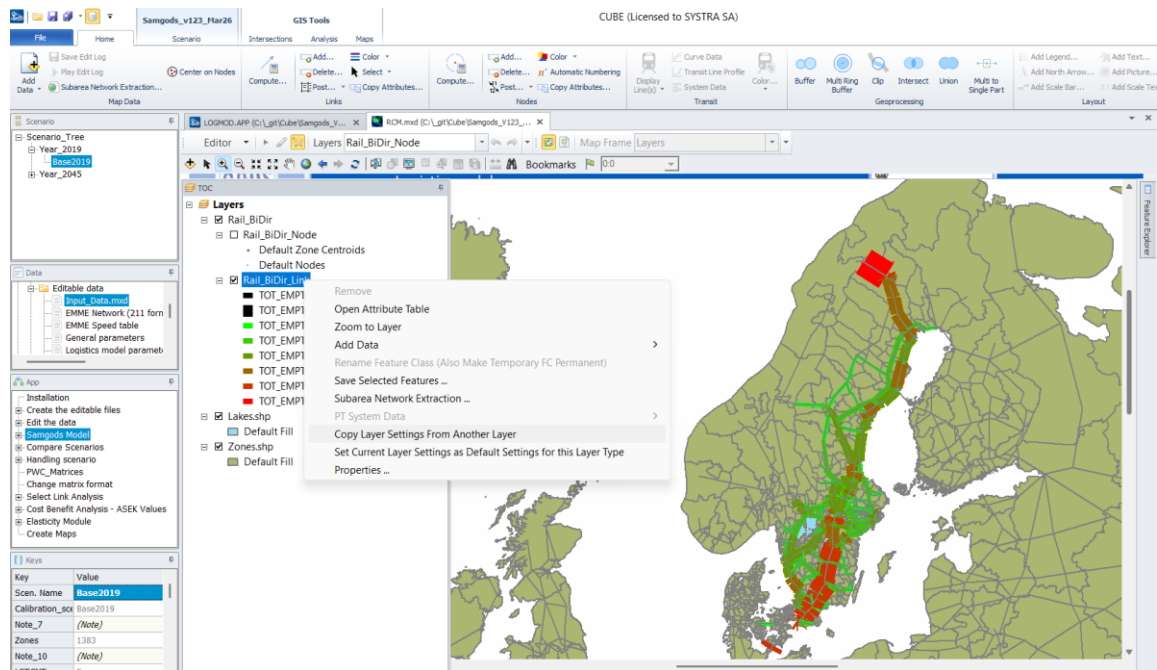

Figure 108 Copy layer settings from another layer
- On the window select "Copy Layer Settings From Another Layer", see Figure 108.